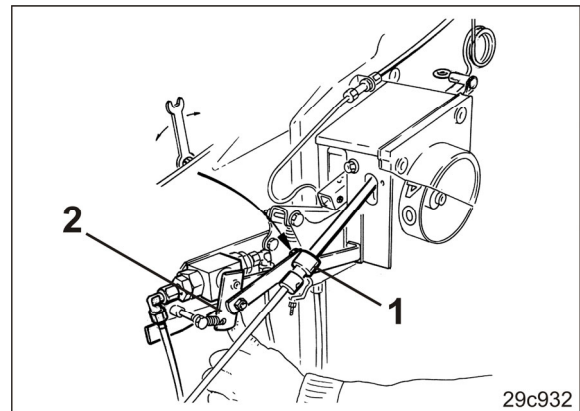

Fig. 233
2. Loosen the set collar (Fig. 233/1).
3. Press the control valve lever (Fig. 233/1) backwards.